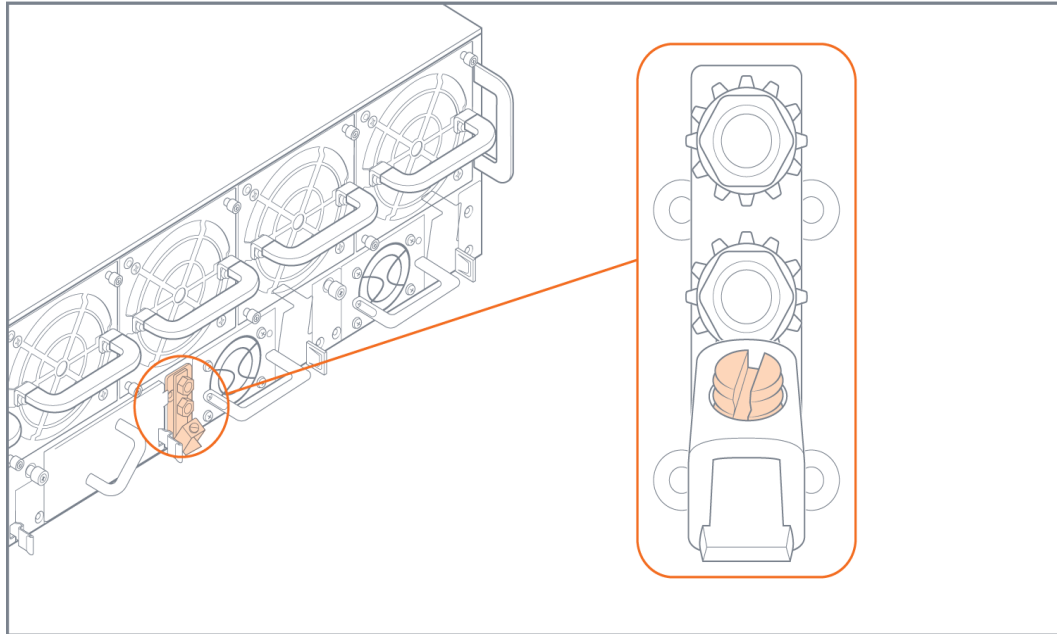

Figure 4-1: Grounding Lug on Rear of GigaVUE-HC3
1. Locate the grounding lug at the center rear of the chassis. Refer to Figure 4-1 on page 72 (or Figure 1-3 on page 11) for the location on a GigaVUE-HC3 node.